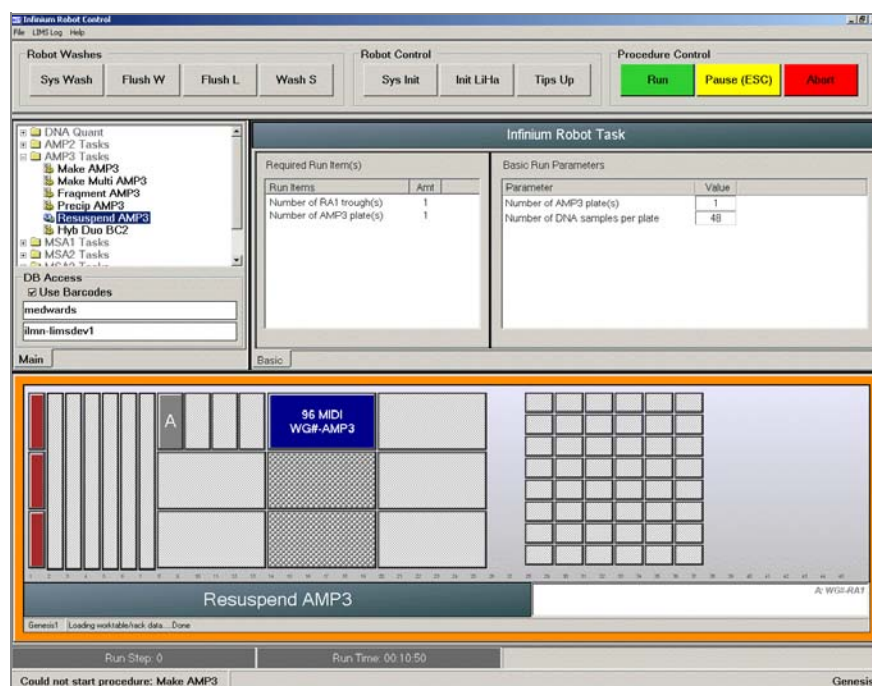

Figure 122 Resuspend AMP3 Screen
3. Place the AMP3 plate on the robot bed according to the robot bed map (Figure 122). Remove the plate seal.